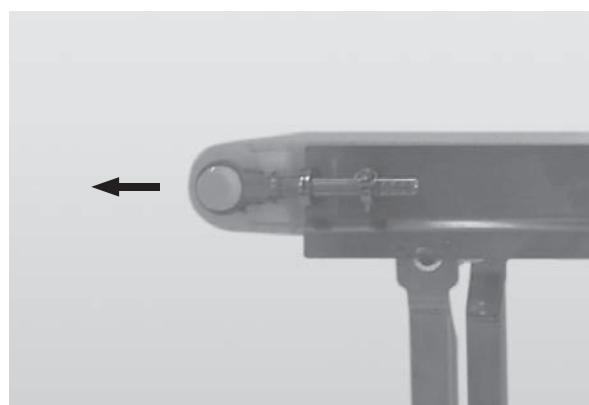

Figure 40
7. Extend the tension end to remove excess slack in the belt (Figure 40).